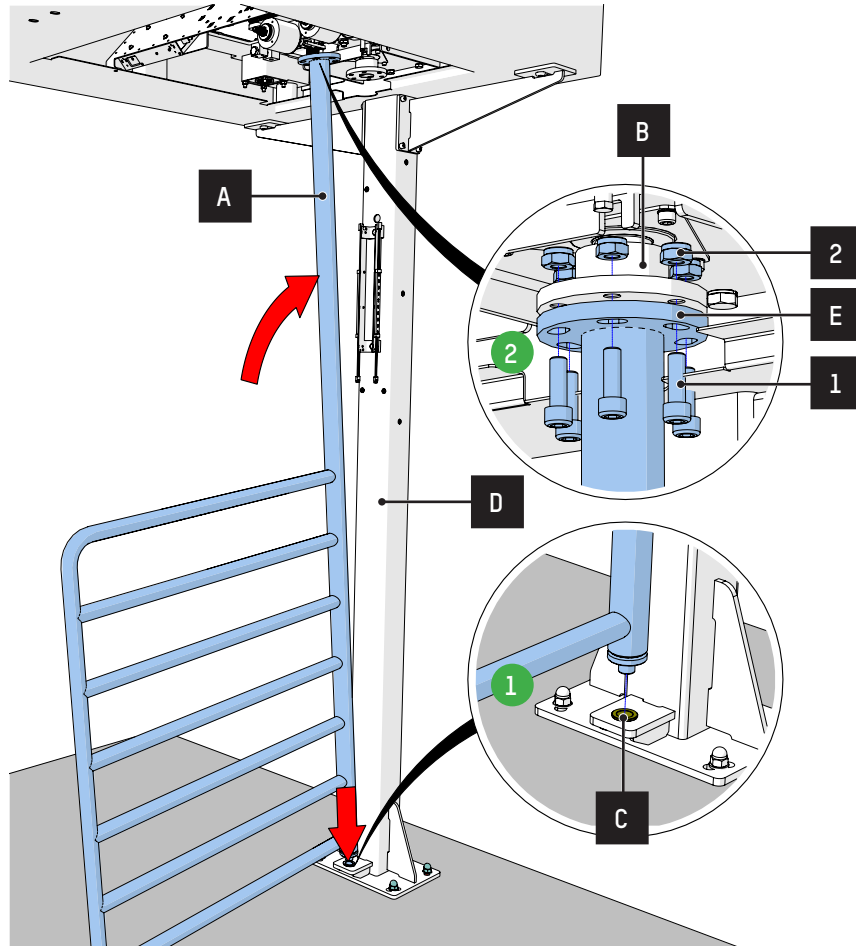

Fig. 34 - Installing the moving barrier (bike)
- **ADJUST THE ALIGNMENT OF THE MOVING BARRIER IN RELATION TO THE FIXED BARRIER AND THE MOBILE COMBS BY ADJUSTING THE SIX (6) SCREWS (⇒REF. 1, FIG. 34, PAGE 38).**